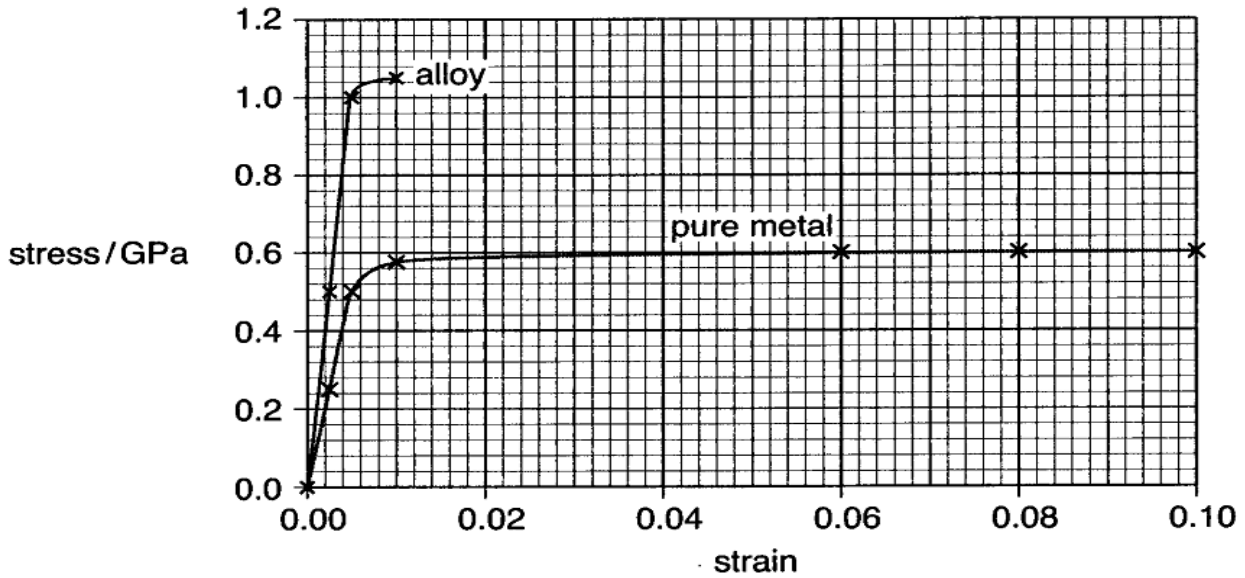

Fig. 10.1
Fig. 10.1 shows the stress against strain graphs to breaking point for samples of a pure metal and one of its alloys.
- (a) (i) Use data from Fig. 10.1 to calculate the Young modulus of the pure metal. Make your method clear.